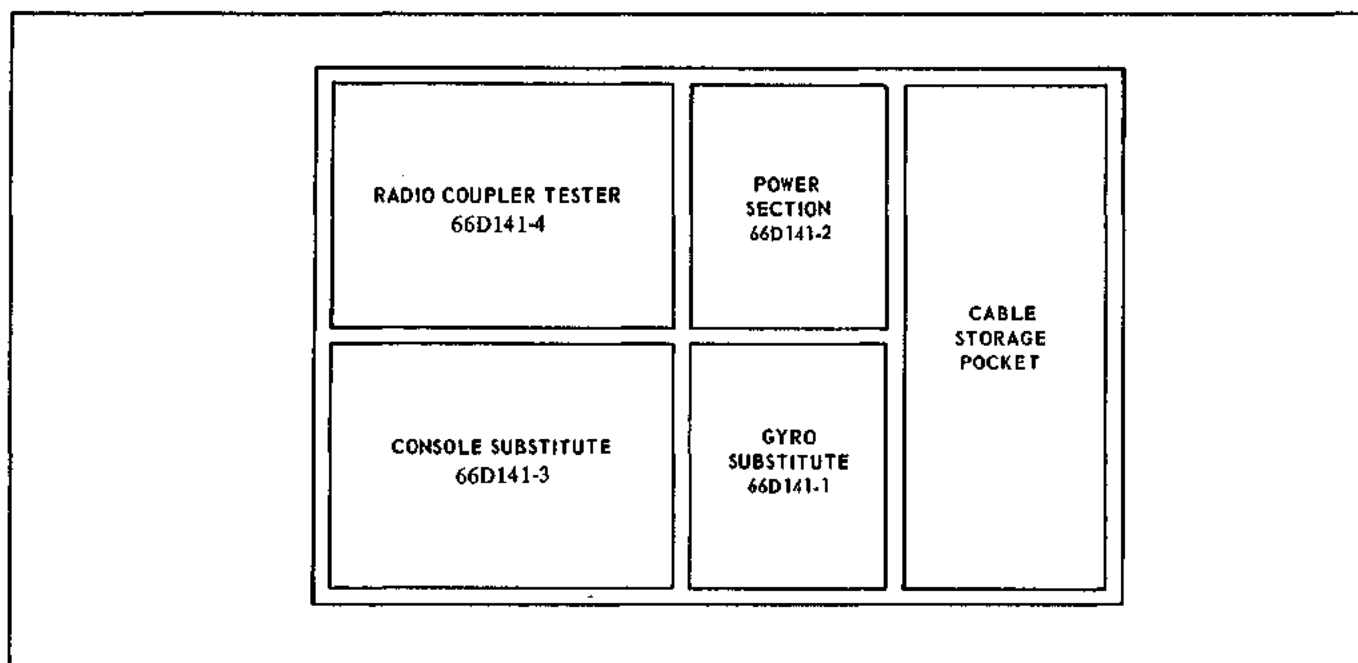

Figure 4-5. Block Diagram of 66D141 Test Kit
a. Shown in Figure 4-5 is a block diagram of the complete test kit instruments and cable storage area. Each test kit has a serial number. Make sure the equipment in the kit has the correct serial number. When referring to the factory for service or calibration of any instrument, give serial number of the equipment.